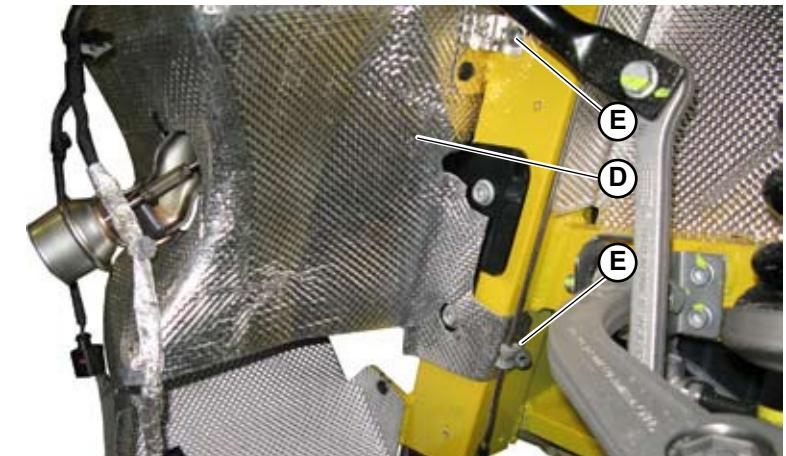

Fig.6
- Secure the heat-proof panel (**D-Fig.6**) to the chassis by tightening the 2 screws (**E-Fig.6**).